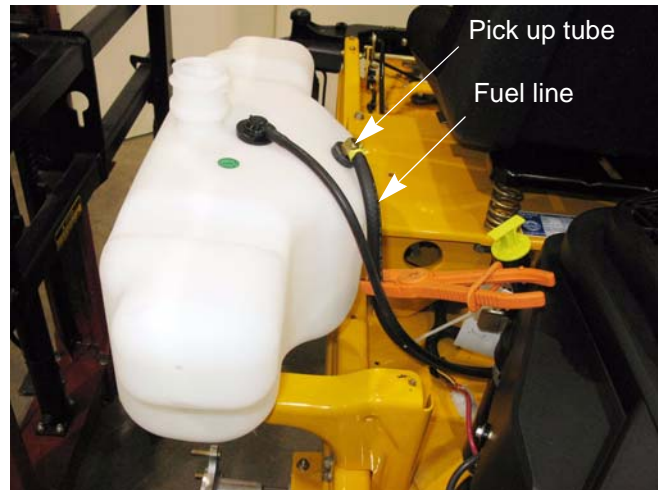

Figure 2.7
2. Clamp off the fuel line between the fuel tank and the fuel filter. See Figure 2.7.